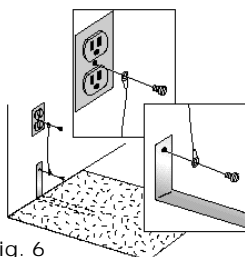

Fig. 6
**Each copper ground strip must be attached to ground.** To ground in accordance with ANSI/ESD Association Standard S6.1, use a #14 or larger copper wire with a ring-tongue terminal at each end. One end is connected to a grounded receptacle and the other is screwed or crimped to the copper strip on the wall or column. (Figure 6)